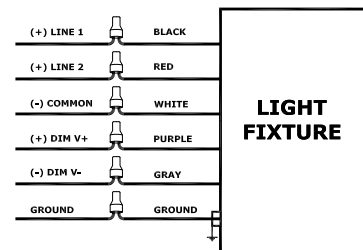

Fig. 6
1. 2x, 3x and 4x fixtures can be separately switched. The black and red fixture leads are for two separately switched circuits. Connect the black fixture lead to (+) LINE 1 supply lead and red fixture lead to (+) LINE 2 supply lead. Follow wiring diagram as in fig. 6.